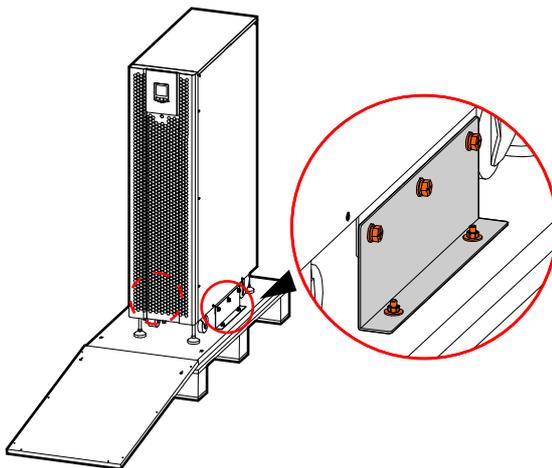

Figure3-4 Bolts position
- Step 6 After checking, unscrew the bolts that connected with the UPS and wooden bracket and the supporting plate by socket wrench, the bolt position as shown in Figure3-4, remove the supporting plate.